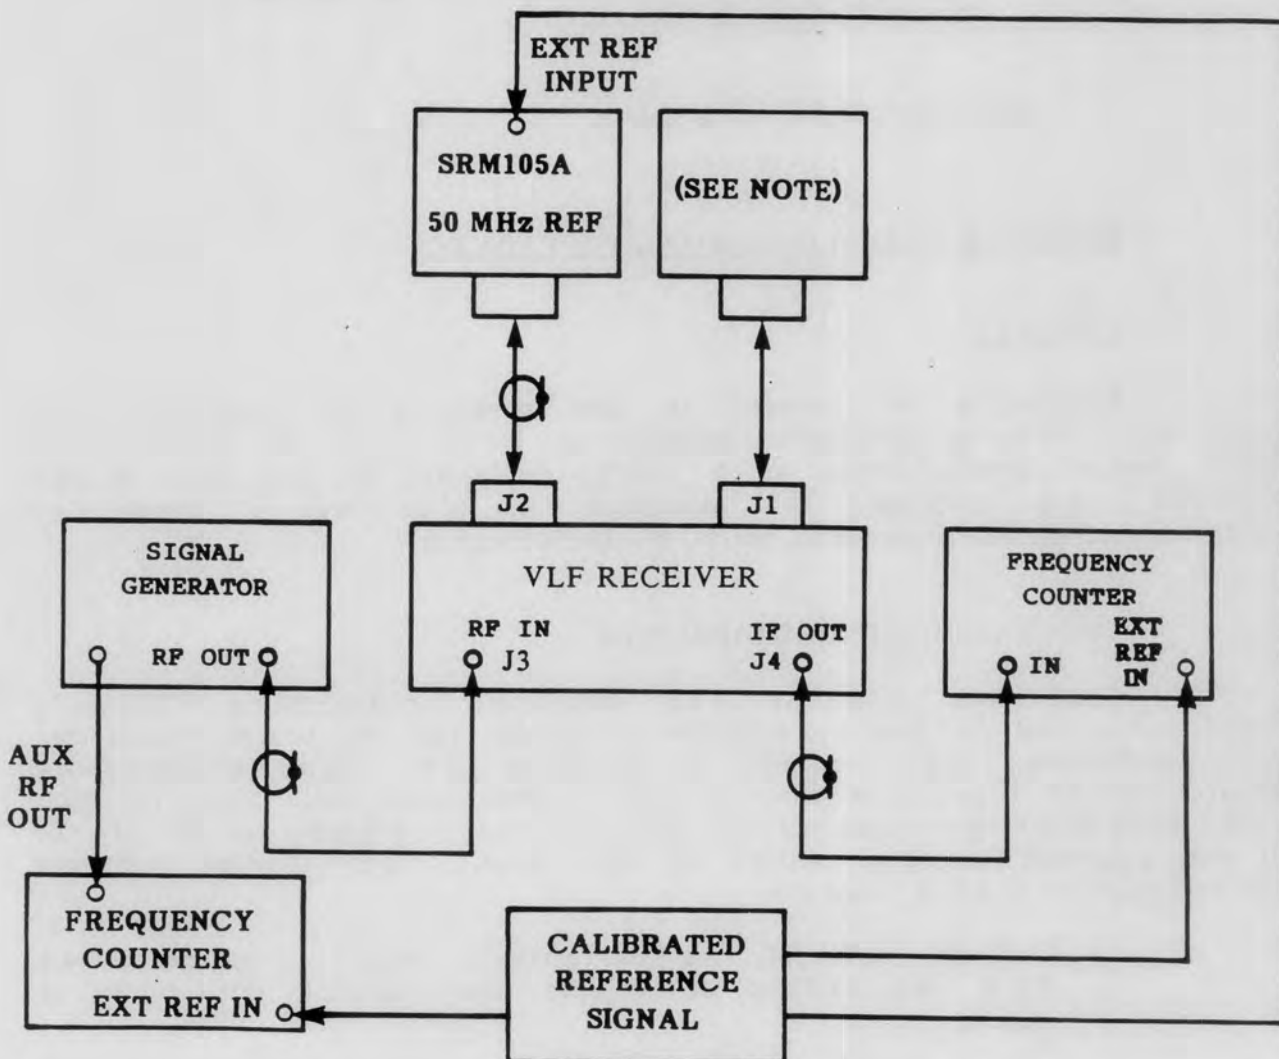

Figure 4-5. Frequency Tuning Accuracy Test Equipment Setup
1. Connect the receiver as shown in Figure 4-5.